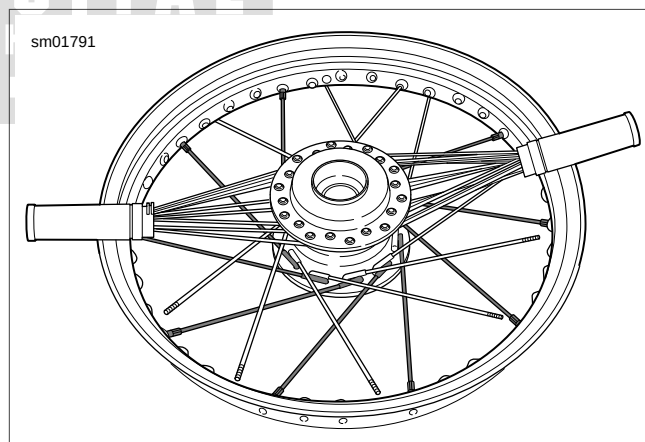

Figure 2-50. Completed Spokes-Bottom Flange Outer
- b. See Figure 2-50. Once you have completed lacing the bottom row of outer spokes (short-head) double check for three empty holes in between each spoke.